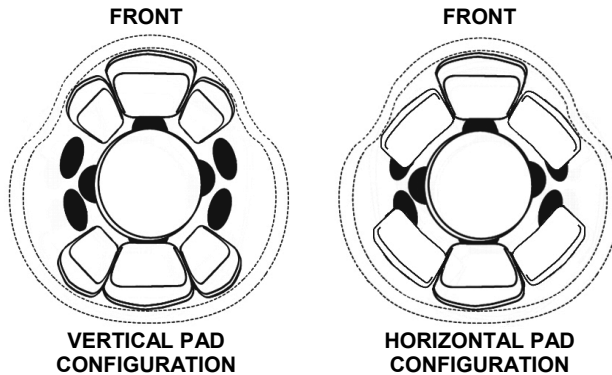
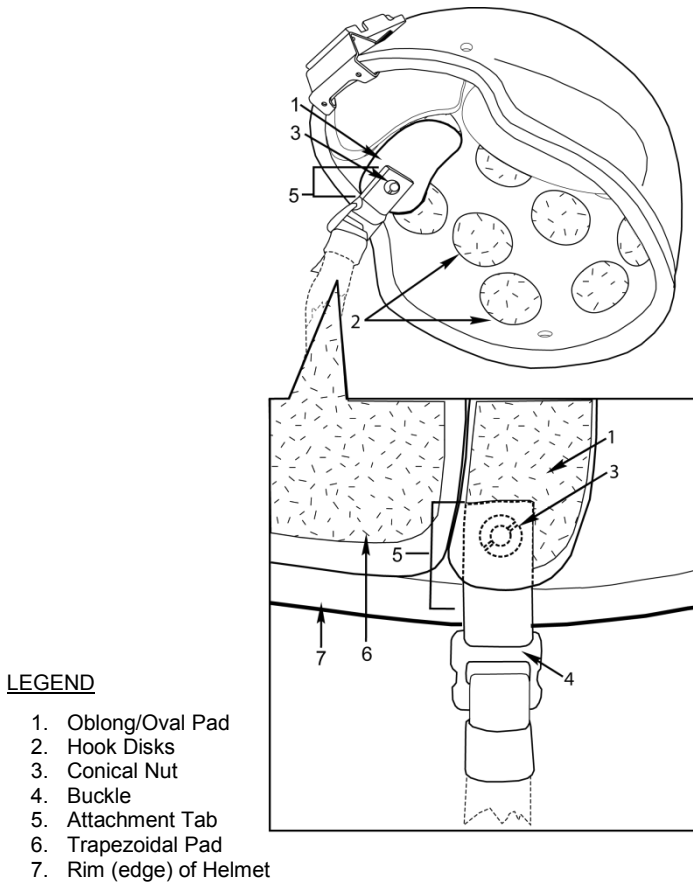

Figure 2. Vertical and Horizontal Pad Placement.
Figure 3. Pad Placement Over Hardware.
The use of all seven pads (nine pads for extra-extra large helmets) provides maximum impact protection. The oblong/oval pads must be placed flush with the rim (edge) of the helmet and completely cover the hardware (Figure 2). Failure to observe this warning may result in serious injury or death to personnel.
2. Place pads in either the vertical or horizontal configuration (Figure 2) or at any angle in between, ensuring all hardware is covered and the oblong/oval pad is flush with the rim (Figure 3).
Figure 3 illustrates the helmet with a Universal H-back chinstrap retention system and hardware is an example of how the pads must be placed in order to correctly cover the hardware. The illustration applies regardless of which helmet or hardware is worn. Adjust pads as necessary.